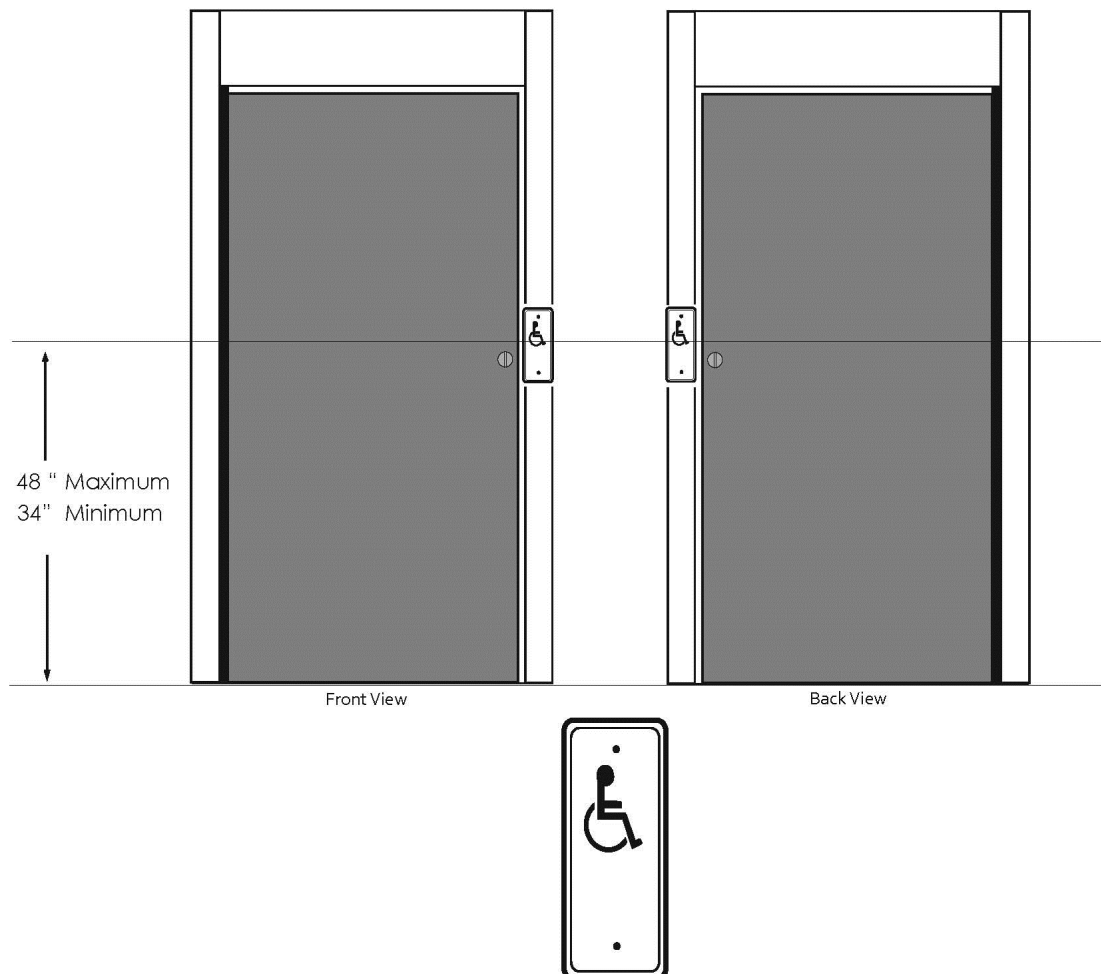

Figure 27
1. Refer to Figure 27, and **INSTALL** the pushbutton switches. **ENSURE** the following: